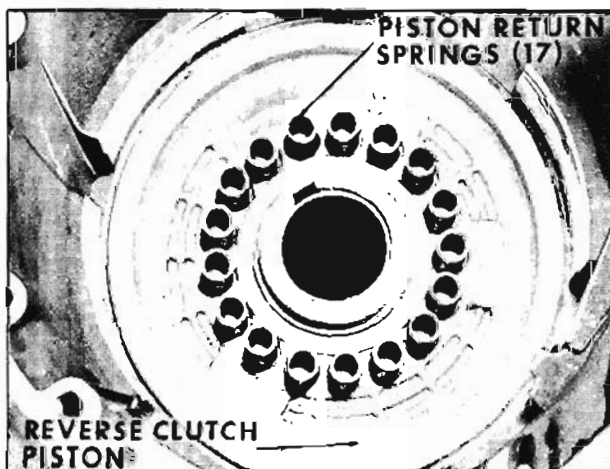

Fig. 6-295 Removing Reverse Clutch Piston Return Springs
6. Remove tool J-21420-1 & 2 being careful that piston return seat does not catch in snap ring groove. Remove piston return seat and remove 17 piston return springs. (Fig. 6-295)